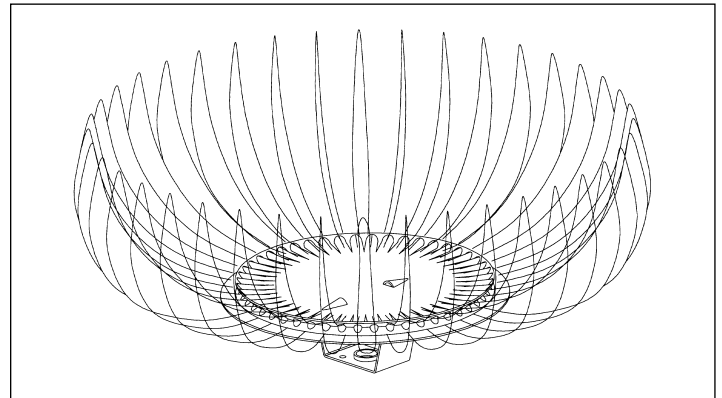

Figure 4 - Sheet Metal Burner
At least every three (3) months, check the burner and pilot flames. The burner flames must be a soft blue flame with no yellow tips. Yellow tips indicate a carbonizing flame which can, depending on severity, deposit carbon (soot) on the combustion chamber and flue passages. A sheet metal burner is used on natural gas models (see Figure 4).